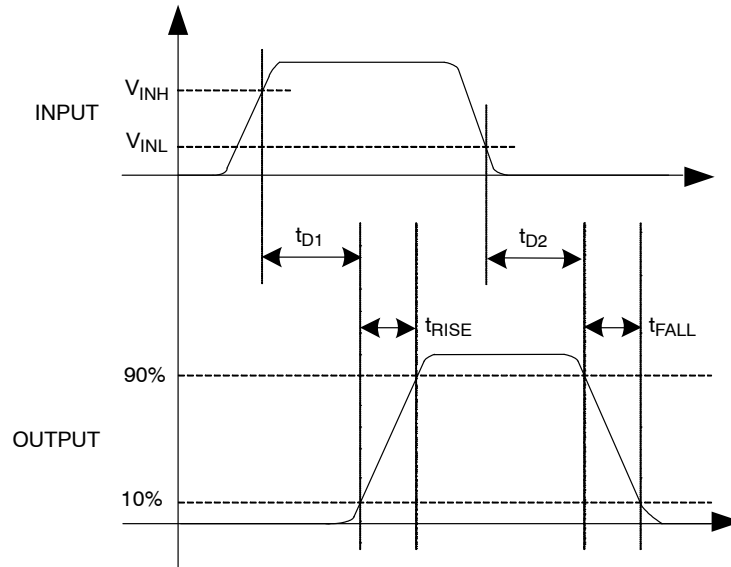

Figure 3. Timing Diagram
8. See Timing Diagram of Figure 3.